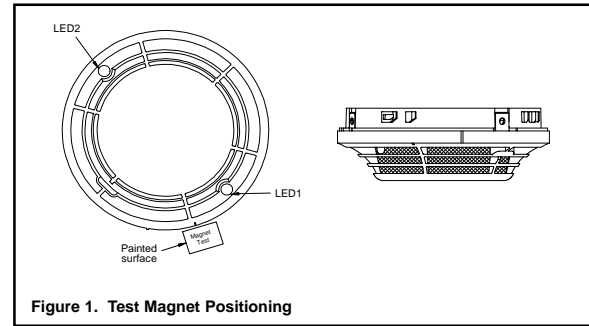

Figure 1. Test Magnet Positioning
- Test the sensor by positioning the test magnet (Model M02-24-optional) against the sensor body approximately 2cm from LED1 in the direction of the metering socket as shown in Figure 1.